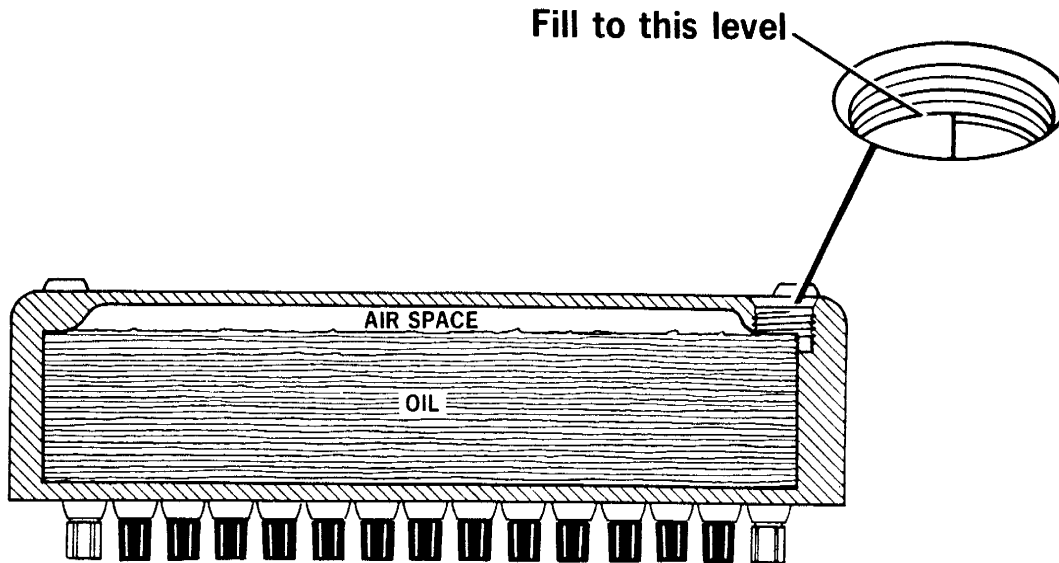

Figure 6-6. Filling the SR1030 with Oil
4. Again position the SR1030 bottom side up on a clean flat surface. Insert the funnel in the fill port and pour in the oil until it reaches the right angle in the fill port's opening as shown in Figure 6-6.